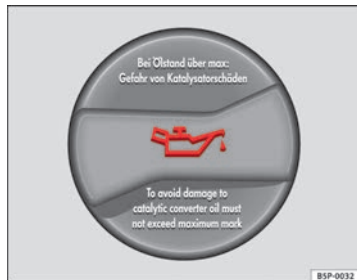

Fig. 134 In the engine compartment: Engine oil filler cap
- Unscrew cap from engine oil filler opening ⇒ **Fig. 134**.